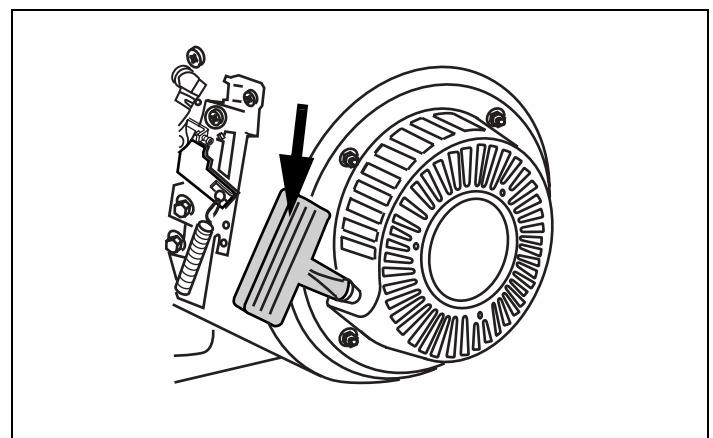

Figure 27. Starter Cord Handle
5. Grasp starter cord handle. See Figure 27.